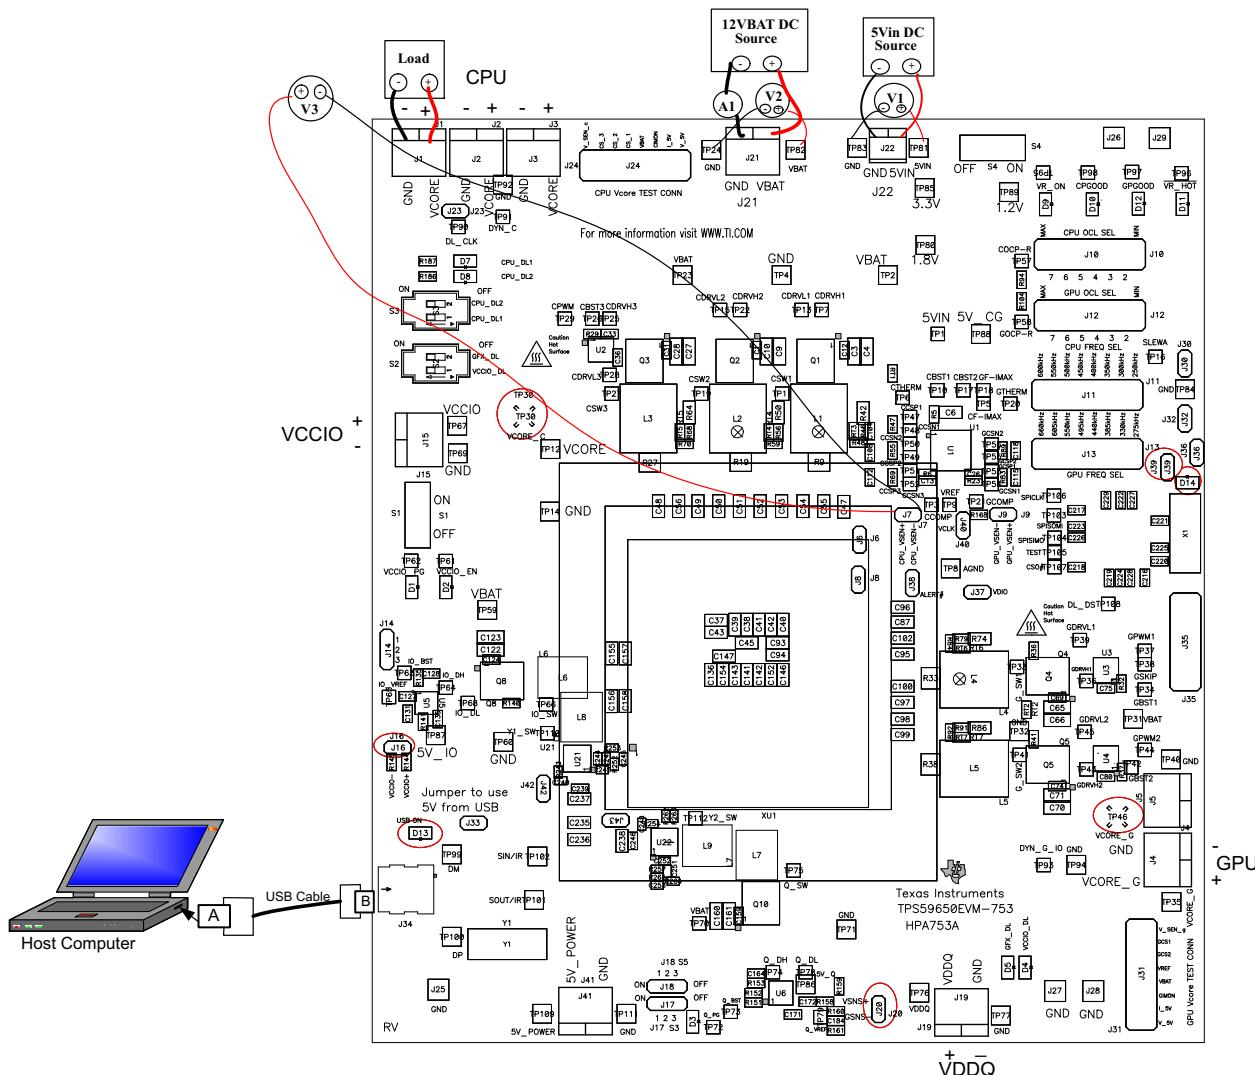

Figure 4. TPS59650EVM-753 Recommended Test Set Up
12VBAT DC Source: The 12VBAT DC source should be a 0-20V variable DC source capable of supplying 20Adc current. Connect 12VBAT to J21 as shown in Figure 4.
5Vin DC Source: The 5Vin DC source should be a 0-5V variable DC source capable of supplying 1Adc current. Connect 5Vin to J22 as shown in Figure 4.
Figure 4 is the recommended test set up to evaluate the TPS59650EVM-753. Working at an ESD workstation, make sure that any wrist straps, bootstraps or mats are connected referencing the user to earth ground before handling the EVM.
- Prior to connecting the 5Vin DC source, it is advisable to limit the source current from 5Vin to 1A maximum. Make sure 5Vin is initially set to 0V and connected as shown in Figure 4.
- Prior to connecting the 12VBAT DC source, it is advisable to limit the source current from 12VBAT to 10A maximum. Make sure 12VBAT is initially set to 0V and connected as shown in Figure 4.
- Connect voltmeters V1 at TP81 (5Vin) and TP83 (GND) to measure 5Vin voltage, V2 at TP82 (VBAT) and TP24 (GND) to measure 12VBAT voltage as shown in Figure 4.